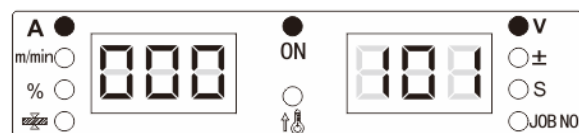

Fig. 4-17 FB0 Display Interface
- Press the "Fn" key, adjust the right panel knob to check software version, as shown in figure 4-17.